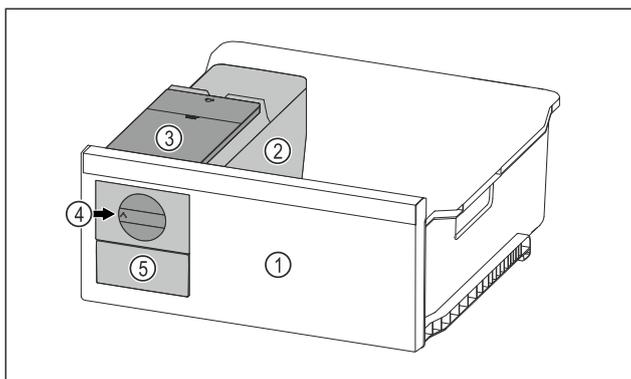

Fig. 66 Example illustration
- ▶ Turn the rotary knob Fig. 66 (4) clockwise as far as it will go.
- ▷ Ice cubes fall from the ice cube tray into the ice cube drawer Fig. 66 (5).